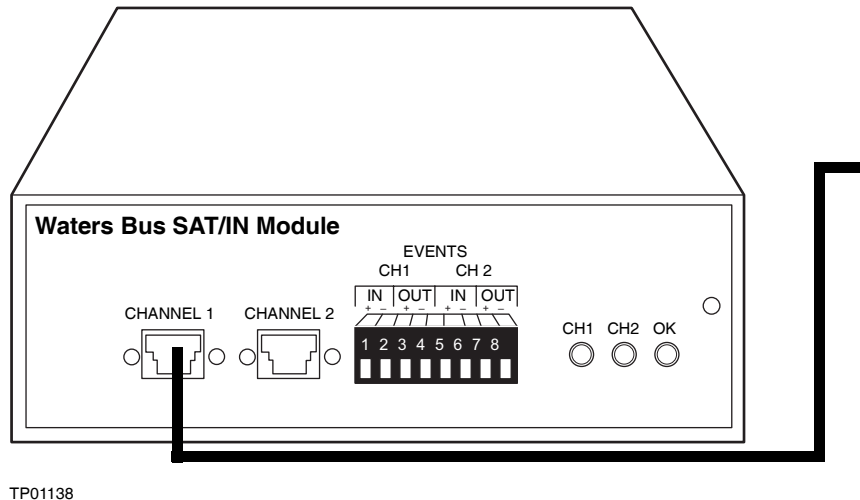

Figure 2-15 Connecting a busSAT/IN Module Channel 1 to the 2465 Detector
- a. The busSAT/IN Module connects to the 2465 Detector through the Output (BNC) terminal on the rear panel of the detector, as shown in Figure 2-15.